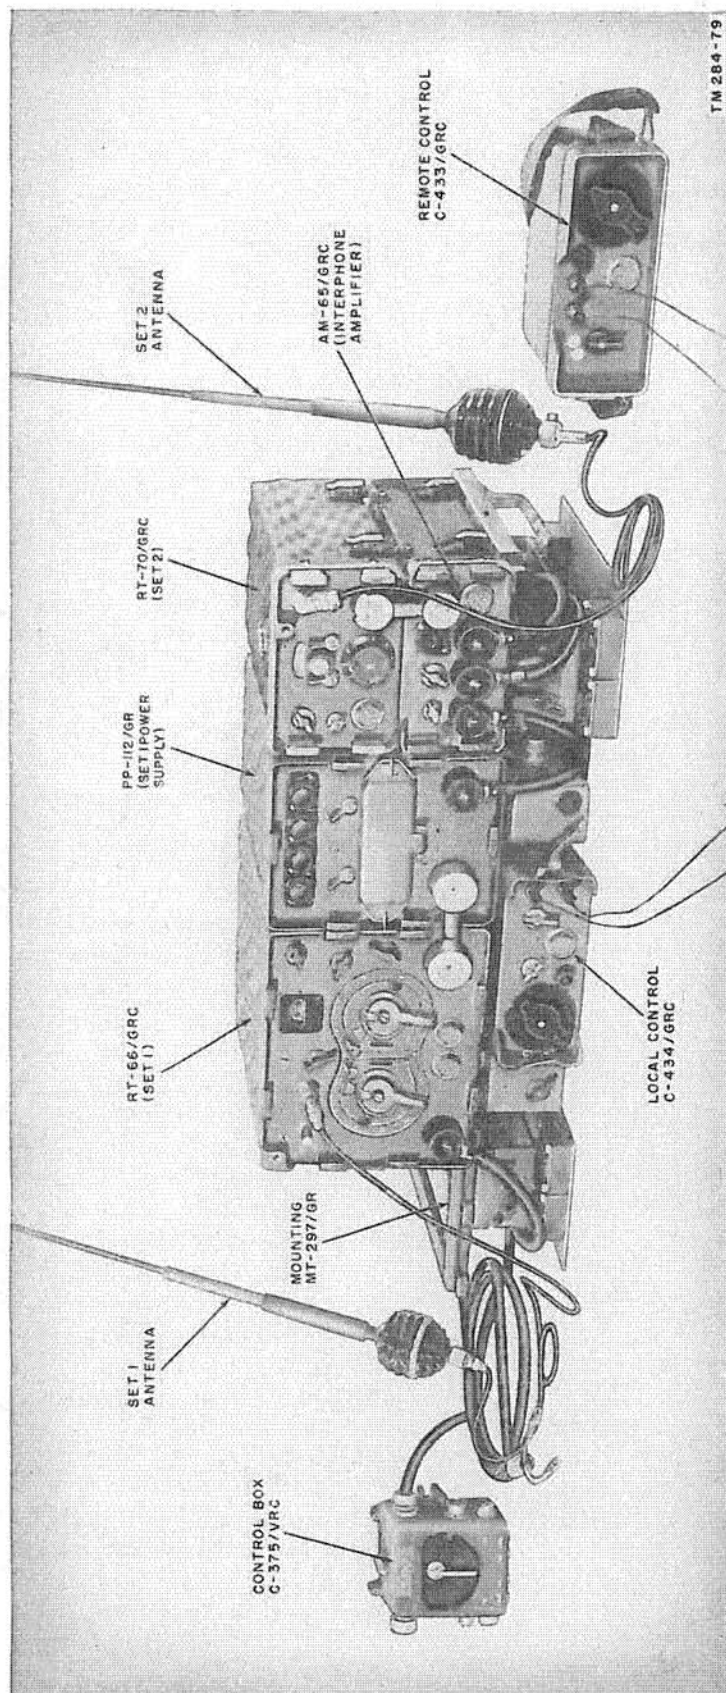

Figure 3. Radio Set AN/GRC-4.
- (1) Two receiver-transmitters, an interphone amplifier, and suitable power supplies.
- (2) A mounting.
- (3) Four control units.
- (4) Suitable antenna systems and interconnecting cables.
d. RADIO SET AN/GRC-4. Figure 3 shows the major components of Radio Set AN/GRC-4 connected to simulate an operating installation. Receiver-Transmitter RT-66/GRC is utilized as Set 1; Power Supply PP-112/GR furnishes operating voltages for Set 1; Receiver-Transmitter RT-70/GRC is Set 2; and AF Amplifier AM-65/GRC is the interphone amplifier. Operating voltages for Set 2 and the amplifier are furnished by a plug-in power supply unit (Power Supply PP-282/GRC) contained within the amplifier. All of the above mentioned units are secured on Mounting MT-297/GR which is normally bolted to a vehicular mounting surface. The mounting also accommodates one of the control units (either Local Control C-434/GRC, pictured, or Control C-435/GRC) as a plug-in unit. From the mounting, connections are made to the vehicular battery, to the major units supported on the mounting, and to one or more Control Boxes C-375/VRC. When the local control unit is plugged into the mounting as shown, connection is made to Remote Control C-433/GRC by telephone wire. Connections to the antenna systems are made directly from the panels of the Set 1 and Set 2 receiver-transmitters (fig. 29).
g. RADIO SETS AN/GRC-5 AND -7. If Radio Receiver R-108/GRC is added to the basic system (*d* and *e* above, and fig. 3), the installation becomes Radio Set AN/GRC-3 (fig. 1). (Control C-435/GRC is shown plugged into the mounting in figure 1, in place of the local control unit.) Substitution of Radio Receiver R-109/GRC or R-110/GRC for Radio Receiver R-108/GRC (along with the Set 1 and antenna substitutions of *f* above) changes the system to Radio Set AN/GRC-5 or Radio Set AN/GRC-7, respectively.
e. In vehicular installations Set 1 is installed on Mounting MT-297/GR (fig. 3) and is powered by a vehicular power supply such as Power Supply PP-112/GR.
c. Mechanically the receiver-transmitter is a panel-chassis assembly contained in a metal case. Snap catches are provided on the case for mounting it on AF Amplifier AM-65/GRC (fig. 3). When the case is removed (figs. 62, 63, and 64) the r-f and i-f chassis assemblies are exposed. All tubes are mounted on these vertical chassis.
c. Mechanically the interphone amplifier is a panel-chassis assembly inclosed in a metal case. Channel rails on the bottom of the case permit the unit to be installed on Mounting MT-297/GR; hooks on the case accommodate the snap catches of Receiver-Transmitter RT-70/GRC, which normally mounts on top of the amplifier in a vehicular installation (fig. 3). When the case is removed (fig. 60), all replaceable parts are accessible.